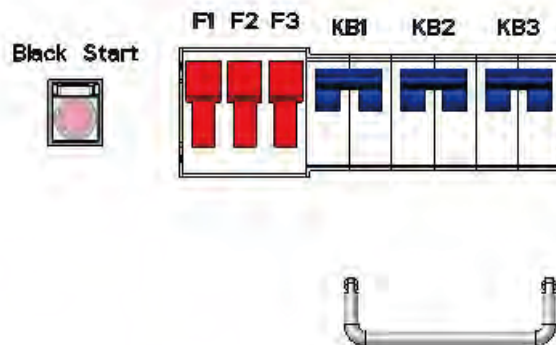

Figure 7-2 Black Start and internal MCB
(4) Open the cabinet door, close KB1, KB2 and KB3, press and hold the "Black Start" red button for 3 seconds as shown in Figure 7-2, wait for about 30 seconds, the battery voltage data will be displayed on the monitoring interface (if the monitoring is running) After the battery voltage data has been displayed, there is no need to press the "Black Start" red button). (If there is power on the AC side, that is, the diesel generator is running or the mains is input, the battery voltage data can be displayed on the monitor without pressing the "Black Start" red button).
(5) Take CE-500KW as an example, check whether there is a red alarm signal in the upper right corner of the monitor, and it can be turned on if there is no red alarm signal.